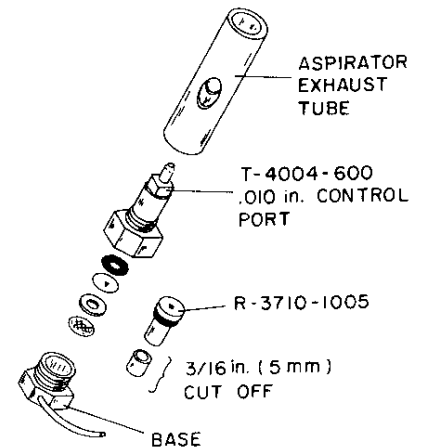

Fig. 21
This restrictor is designed to replace the O-ring, orifice, spacer, and filter on M-4002 aspirator assemblies. To install the R-3710-1005, refer to Fig. 21 and proceed as follows:
4. Cut 3/16 in. (8 mm) off the end of the R-3710-1005 restrictor as shown in Fig. 21 and insert the restrictor into the base.